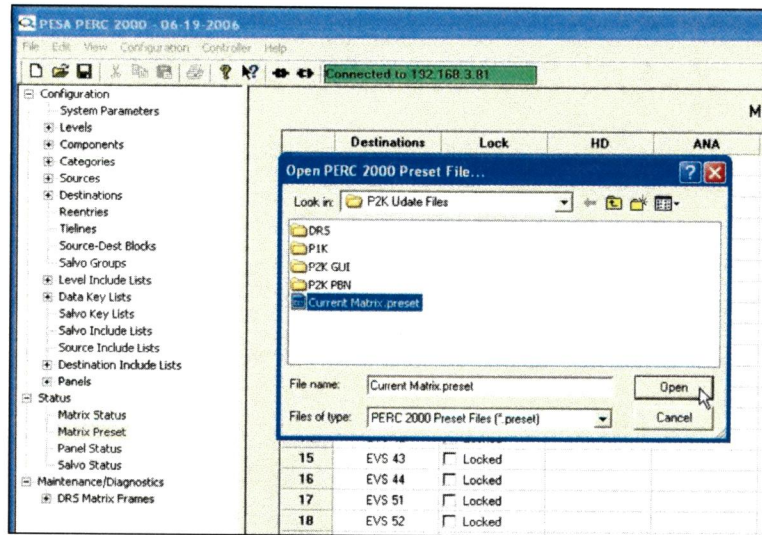

Figure 54. Preset File Browse Box
- 11. The Open PERC 2000 Preset File box, Figure 54, is displayed. Browse to the folder containing the matrix preset file, and click on the matrix preset filename. With the name of the preset file appearing in the File Name box, click “Open” to load the file to the P2K GUI.